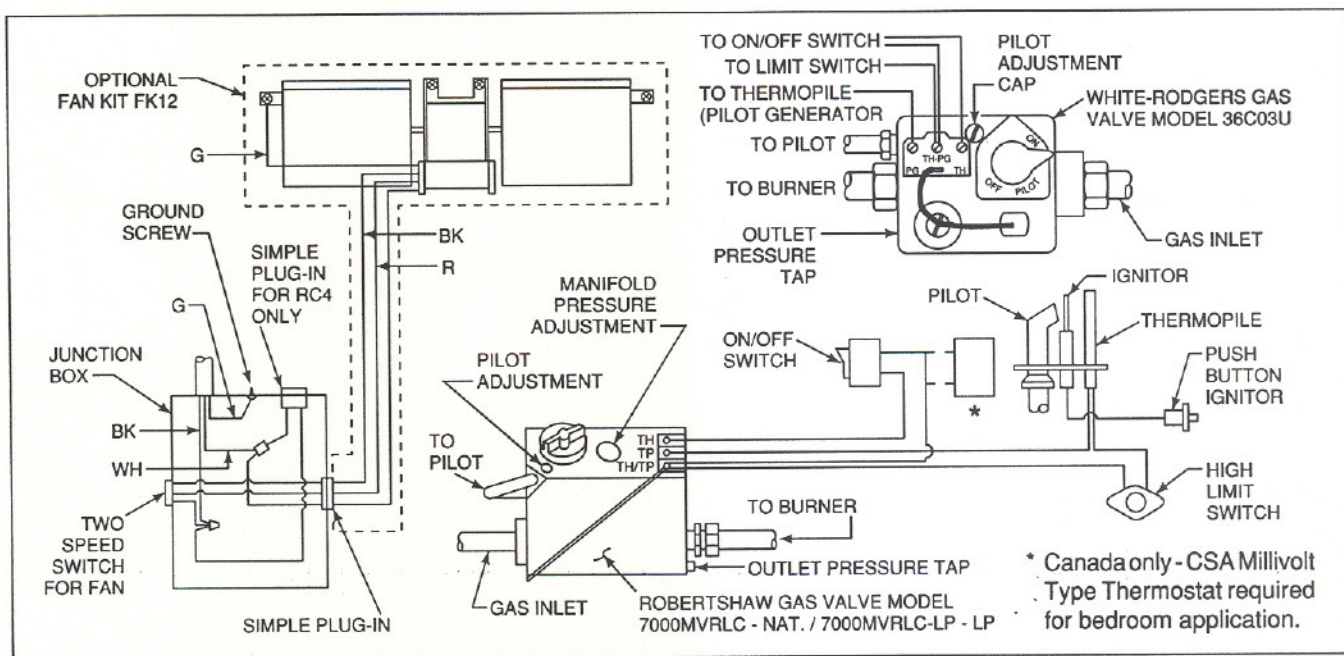

Figure 3
Accessories for this appliance require a 110V power supply. The appliance must be electrically wired and grounded in accordance with local codes or, in the absence of local codes, with National Electric Code ANSI/NFPA 70-latest edition or, in Canada, the current CSA C22.1 Canadian Electrical Code. If an optional FK12 Fan Kit or RC4 Remote Control Kit are to be installed, follow the wiring diagrams that are provided with these accessories and Figure 3.
LIGHTING PROCEDURE (See Figure 3)
1. Remove the pilot adjustment cap. See Figure 3.